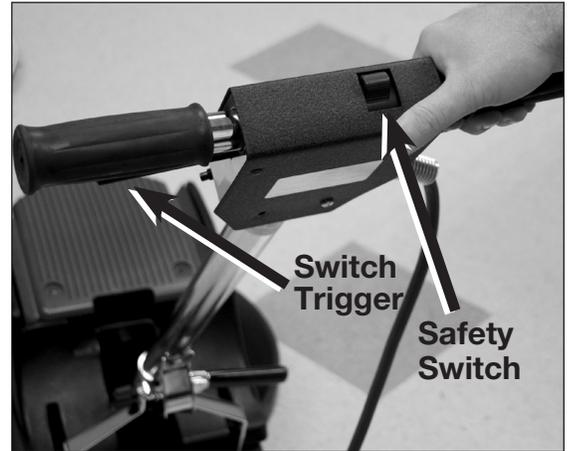

Fig 4
- Plug the machine in as directed and lower the handle to the desired operating height and leave the cam lever unlocked. Push the safety switch forward (Fig 4) and squeeze the switch triggers beneath the handle grips. This activates the motor and starts the block, brush or attachment in operation. Each time you release the triggers the safety switch will reset. You will need to follow the direction above to restart the machine. **CAUTION:** When leaving the machine unattended, disconnect the wall plug and return the handle to the “locked” upright position to prevent accidental starting.